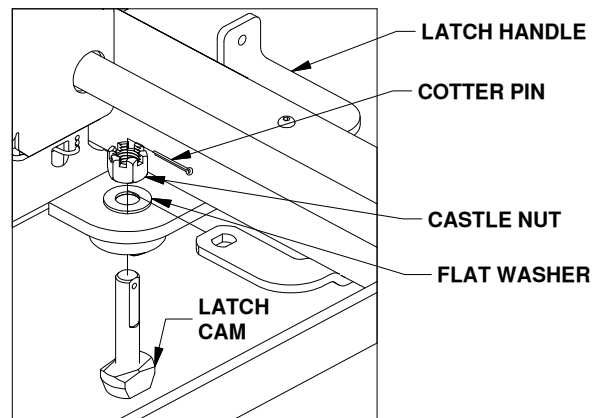

Figure B3: List of latch parts.
3. Adjust the tension in the latch handle, for parts list and visual guide refer to Figures B3 and B4.